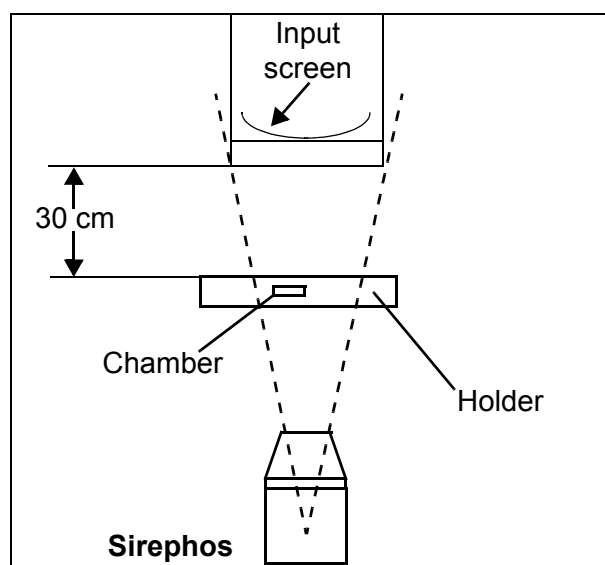

Fig. 2
- Attach the dose ionization chamber at a distance of 30 cm from the I.I. housing (Fig. 2).